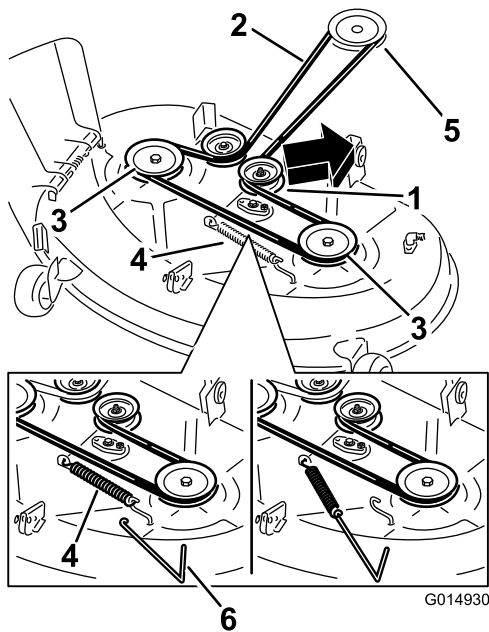

Figure 60
- Using a spring-removal tool, (Toro Part No. 92-5771), remove the idler spring from the deck hook to remove tension on the idler pulley, and roll the belt off of the pulleys (Figure 60).
- Route the new belt around the engine pulley and mower pulleys (Figure 60).
- Using a spring-removal tool, install the idler spring over the deck hook, and place tension on the idler pulley and mower belt (Figure 60).